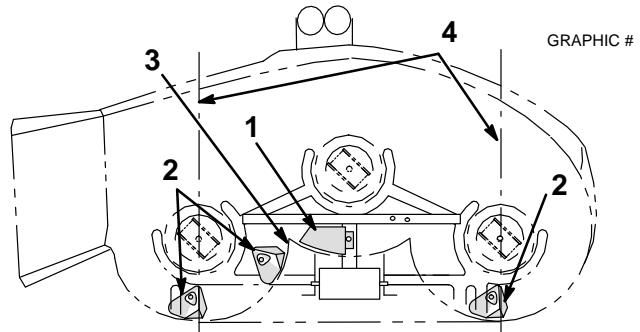
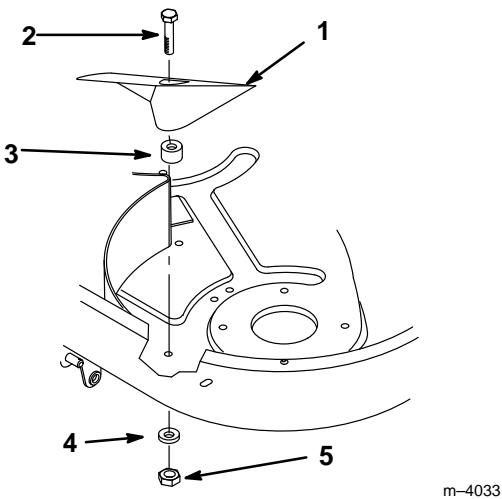

Figure 4
Figure 5
If you had to drill holes to install the baffles, you will also need to drill holes for the kickers, as described in this section. If you did not have to drill holes, remove the short bolts from the holes where the kickers will go (Fig. 4) and proceed to the next section.
1. Place kicker plate into center chamber so tab is in recessed area against rear baffle (Fig. 4).
2. Place (2) kickers into deck on raised area, not in depressions, on center lines (Fig. 4).
3. Place third kicker 1" from left/center joint of rear baffle (Fig. 4).
5. Remove kickers and plate, drill (4) 11/32" holes in the mower.
1. Place the kicker plate into position (Fig. 4).
3. Position kickers (Fig. 4) and secure them with (3) 5/16"-18 x 1" bolts, spacers, flat washers, and locknuts (Fig. 5).